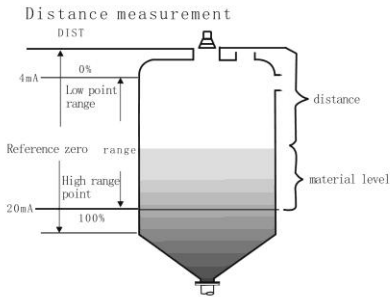

Figure 1.1 Distance measurement
(3) The height value of probe input to the “reference zero”(the height of probe is the distance from the launch surface of probe to the bottom).
①For distance measurement, the reference zero is useless. The position of low point range and high point range can check the figure1.1
②For level measurement, the position of reference zero, low point range